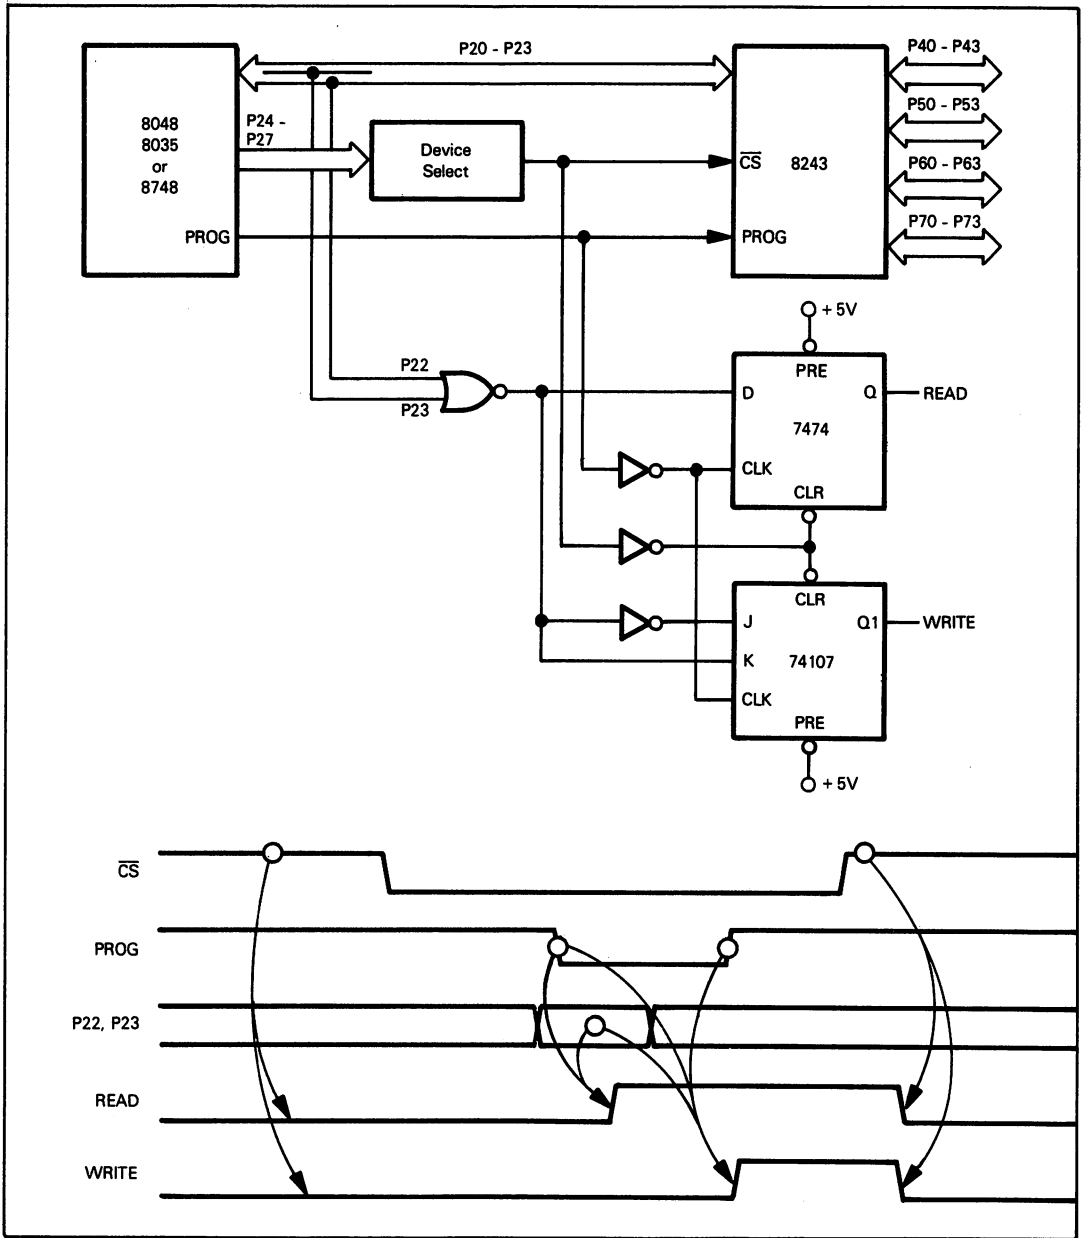

Figure 6-22. An 8243/8048 Configuration with External Logic Read and Write Strobes
P20 - P23 represent the 4-bit bidirectional I/O port or bus connection between the 8243 Input/Output Expander and the 8048 series microcomputer. P20 - P23 must be connected to the low-order four pins of the microcomputer I/O Port 2. Figure 6-22 illustrates the 8243-8048 interface.
**$\overline{CS}$  is the single chip select signal for the 8243 device.**  $\overline{CS}$  must be low for the device to be selected. There is no specifically defined manner in which  $\overline{CS}$  has to be created; in Figure 6-22 it is shown being decoded off the four high-order pins of I/O Port 2.
- 1) **You can output the low-order four Accumulator bits** to I/O Expander Port 4, 5, 6 or 7. Following a write operation the four port lines are held in a low impedance state. External logic does not receive any type of "data ready" signal after data has been output; however, as illustrated in Figure 6-22, you can easily create such a signal by combining PROG and device select logic.
- 2) **You can input data from Port 4, 5, 6 or 7** of the 8243 device to the four low-order Accumulator bits. Again Figure 6-22 shows how you can create a strobe signal which tells external logic when to apply data to an I/O port of the 8243 device.
Observe that external logic must transmit data to an 8243 I/O port on the high-to-low transition of PROG. External logic must read data output after the low-to-high transition of PROG. These signals to external logic are shown in Figure 6-22. Let us take a more careful look at this figure.
The READ and WRITE strobes created in Figure 6-22 identify the time at which external logic must either read data from an I/O port, or write data to an I/O port; however, the I/O port is not itself identified. The READ and WRITE strobes would have to be qualified by P20 and P21 on the high-to-low transition of PROG in order to create READ and WRITE strobes specific to any given I/O port. Here, for example, is the logic which would make READ and WRITE specific to I/O Port 5:
Referring to the timing in Figure 6-22, let us first look at the READ strobe. This signal must go true on the high-to-low transition of PROG — but only if P22 and P23 are both low. READ can stay high until the device is deselected, providing external logic uses the low-to-high transition of READ or timing immediately thereafter, in order to place data at the required I/O port — whence it can be read by the 8048. We obtained the required waveform by using the complement of  $\overline{CS}$  as a CLEAR input to the READ 7474 flip-flop. Thus while the 8243 device is not selected READ will be low. The NOR of P22 and P23 becomes the D input to the READ flip-flop; this input will be high only when P22 and P23 are both low — and that specifies a Read operation. On the high-to-low transition of PROG,  $\overline{PROG}$  goes low-to-high, and that clocks the READ flip-flop Q output high. READ subsequently stays high until  $\overline{CS}$  goes high again, at which point the READ flip-flop is cleared and READ goes low.